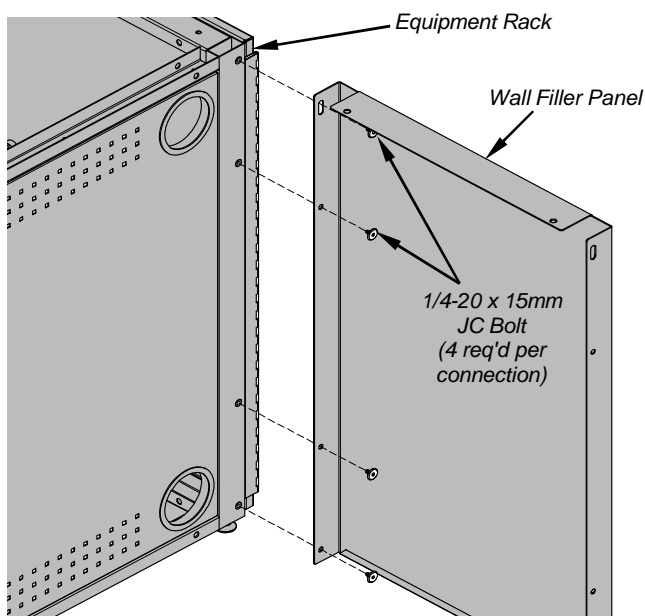

Figure 3A
- Align the wall filler panel mounting holes as shown. **Figure 3A.**
- Attach with (4) 1/4-20 x 15mm JC bolts. (Locknuts are not required.)